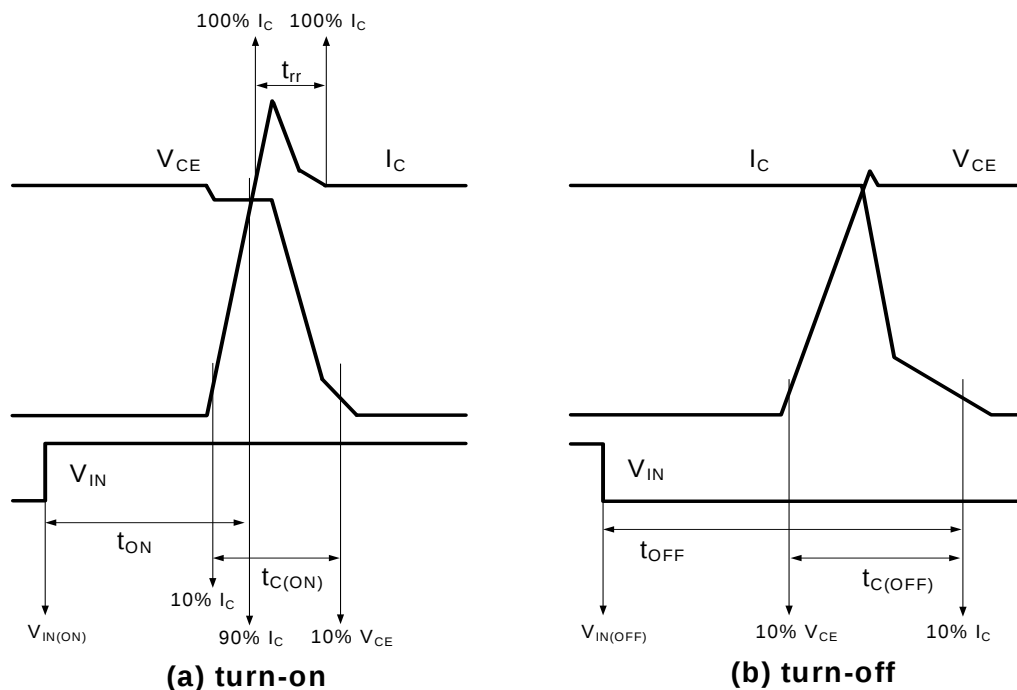

Figure 4. Switching Time Definition
8. t_{ON} and t_{OFF} include the propagation delay of the internal drive IC. t_{C(ON)} and t_{C(OFF)} are the switching time of IGBT itself under the given gate driving condition internally. For the detailed information, please see Figure 4.